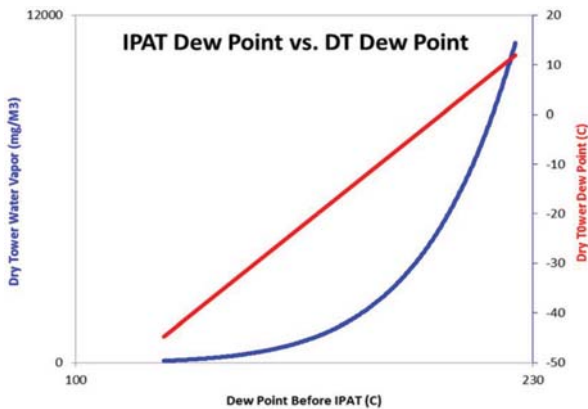

Figure 1—Effect of water vapour slipping past the dry tower
An improvement of the drying tower (DT) acid distribution will reduce sub-micrometre acid mist formation. Figure 1 shows the effect of water vapour slipping past the DT as measured by the exit dry tower water dew point. This water vapour eventually combines with SO₃ in the process gas, resulting in sulphuric acid vapour entering the inter-pass absorption tower (IPAT). Normal dew point temperature is less than -40°C; however, well-performing dry towers have much lower dew points. This can be as low as -50 to -60°C. The higher the dry tower dew point, the higher the inlet acid vapour content entering the IPAT and the higher the potential for acid mist formation once the gas enters the IPAT and cools below the sulphuric acid dew point.